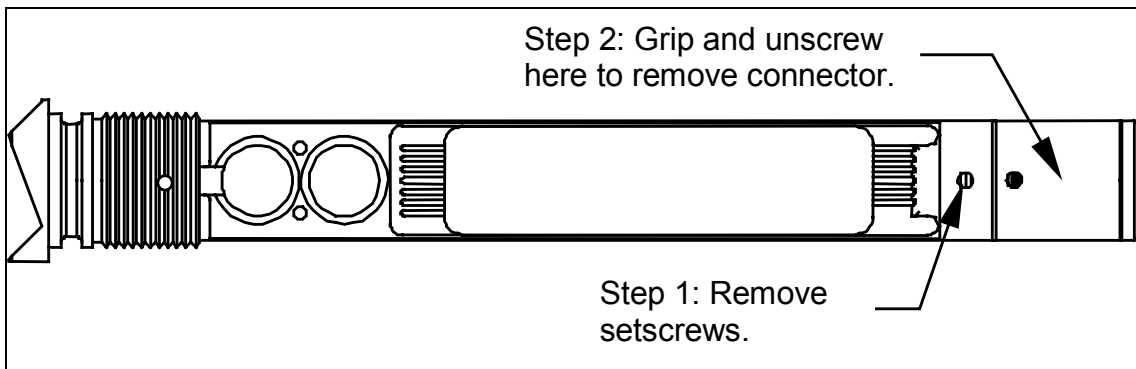

Figure 1: SXP Mounting Configuration (Individual wires and twisted wires are not shown).
3. The SXP comes standard with a Fischer connector. To remove the connector, electrostatic discharge (ESD) precautions must be followed. First, remove the two setscrews anchoring the connector bushing in place (see Figure 1.) If the connector bushing does not unscrew easily from the circuit carrier (chassis), it will be necessary to apply heat to soften the Loctite at the threaded interface. This can be done using a heat gun, or placing the unit in a 150°C oven for several minutes. Once the connector bushing has been unscrewed, cut the wires as close to the connector as possible, leaving approximately 4" of wire length from the hybrid circuit.